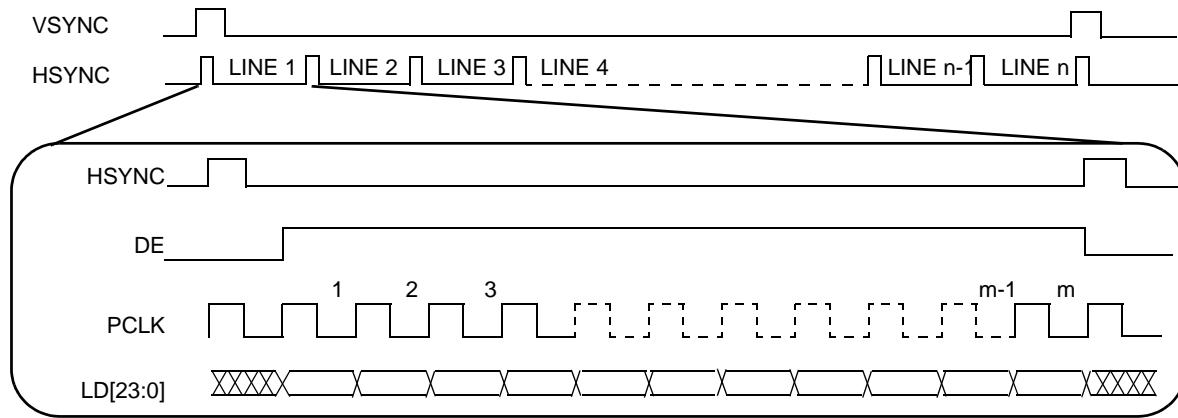

Figure 23. TFT LCD interface timing overview¹
1. In Figure 23, the “LD[23:0]” signal is “line data,” an aggregation of the DCU’s RGB signals—R[0:7], G[0:7] and B[0:7].